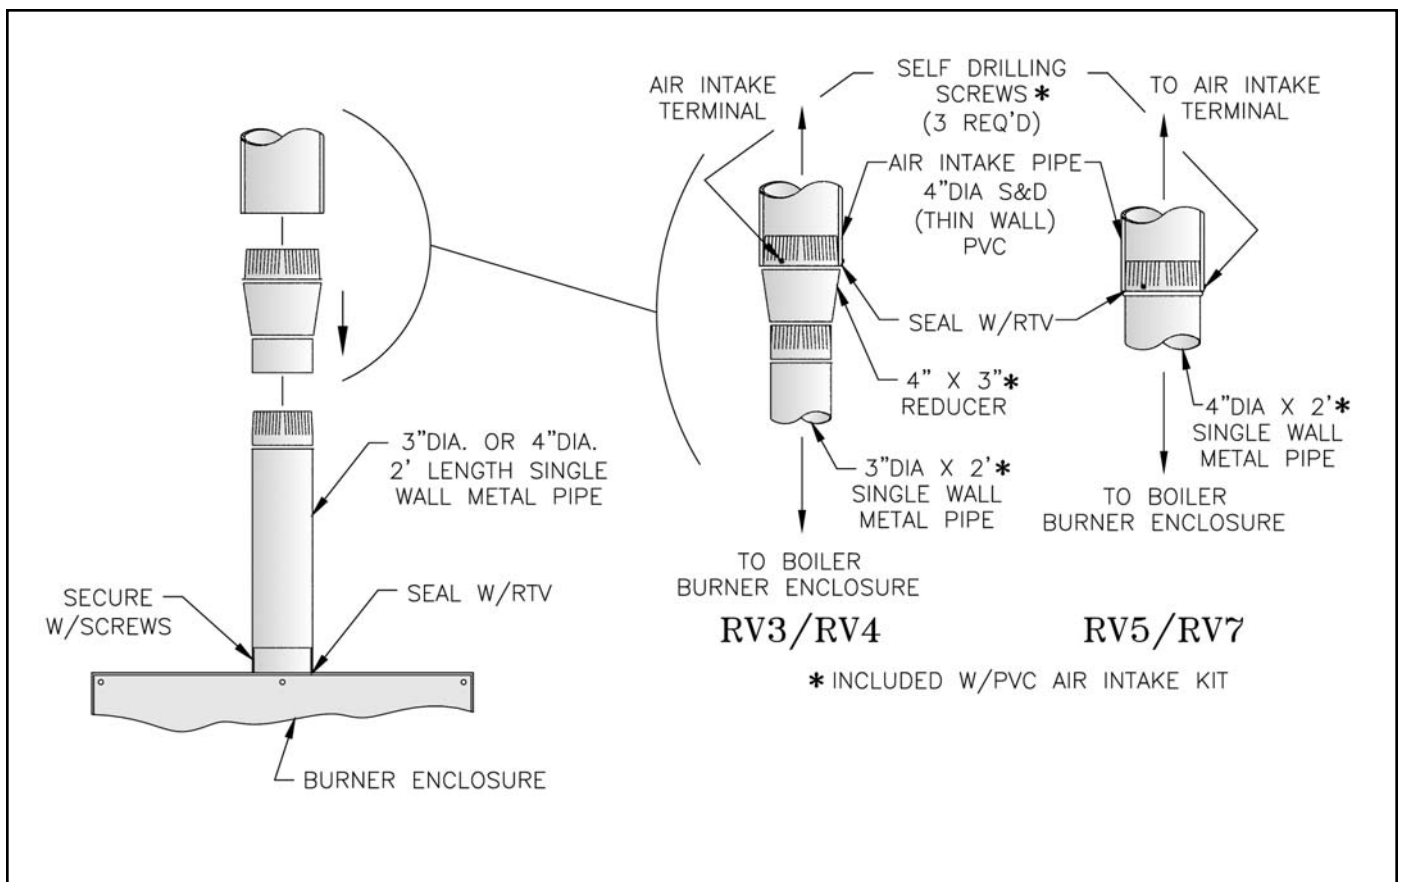
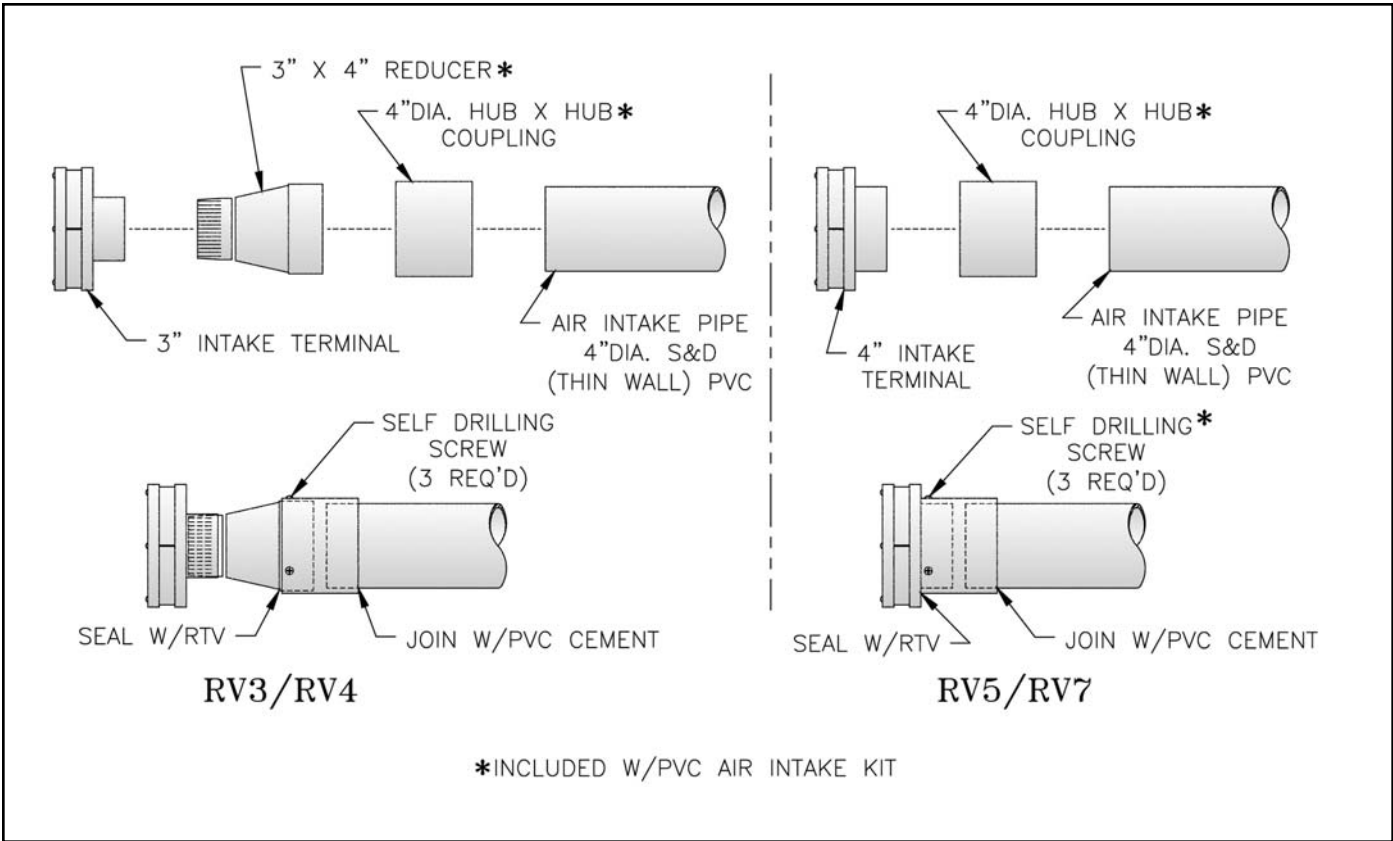

Figure 20: PVC Air Intake - Air Intake Pipe Installation
Figure 21: PVC Air Intake - Separate Horizontal/Vertical Air Intake Terminal Installation
K. PVC Air Intake System – See Figures 20, 21 and 22.
4. Install two (2) foot section of single wall metal pipe (provided) onto burner enclosure collar.
- a. Secure with three (3) sheetmetal screws.
- a. Secure 4 inch x 3 inch reducer onto two (2) foot section of single wall metal pipe. See Figure 20.
6. Insert and secure 4 inch diameter S & D (thin wall) PVC onto either 4 inch x 3 inch reducer (RV3-RV4) or 4 inch diameter two (2) foot section of single wall metal pipe (RV5-RV7). See Figure 20.
- a. Secure with three (3) self-drilling sheetmetal screws provided.
8. The air intake pipe must be adequately supported with straps or supports no less than five (5) feet apart on horizontal runs. The complete air intake piping system must be rigid and able to withstand minor impacts without collapse.
- a. Join PVC air intake piping to terminal using PVC coupling provided. See Figures 21 and 22.
- Note: RV3-RV4 separate horizontal/vertical installations will require the 4 inch x 3 inch reducer (provided) in addition with the PVC coupling to join the air intake piping and air intake terminal. See Figures 21 and 22.
- b. Secure PVC to terminal or reducer with three (3) self-drilling sheetmetal screws provided.